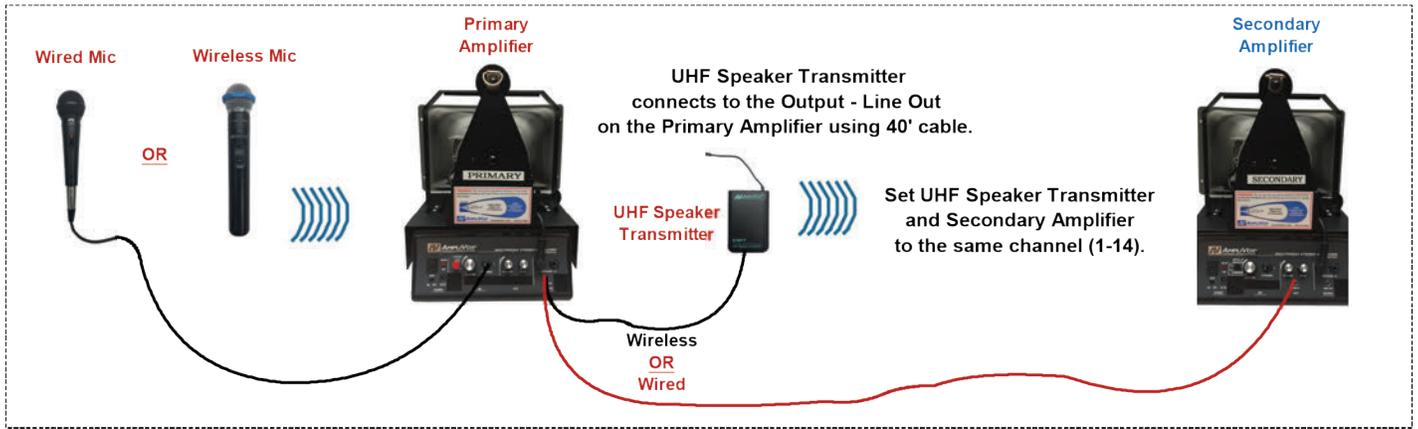

Figure 3
2. Wireless Option (*See Figure 3*)
3. Wired microphone option (*See Figure 3*)